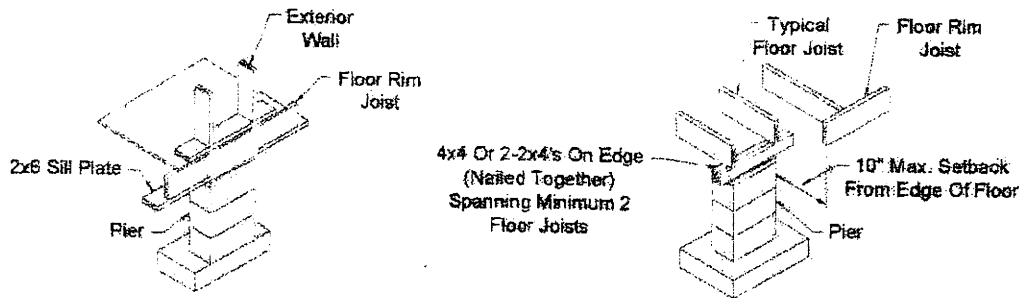

Figure 15
- Recess perimeter blocking supports and perimeter point load using lumber blocking supports no more than 10 inches from the edge of the floor with added support as shown in Figure 15.